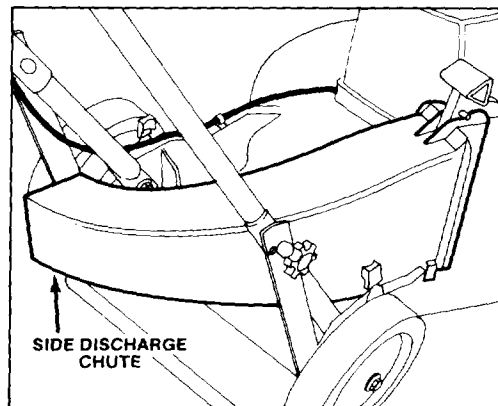

Figure 7
**SIDE DISCHARGE** — Disperse clippings with optional, rear-mounted side discharge chute which installs in seconds (Fig. 7).